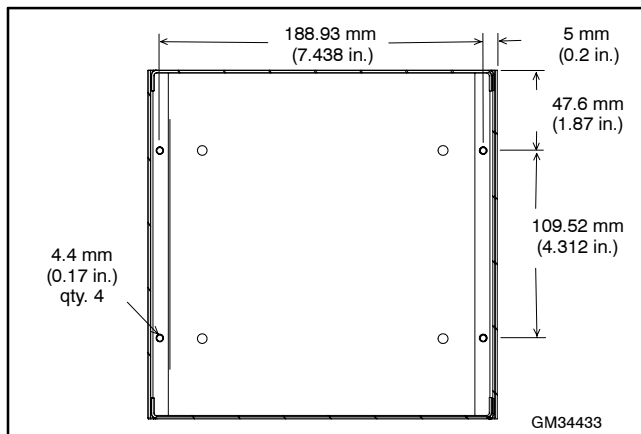

Figure 16 Drilling Mounting Holes in Hoffman Box for RSA Front Panel Assembly
- 3.5.2 Use wall mounting plate GM33031 as a template and drill four 4.4 mm (0.17 in.) diameter holes in the Hoffman box front edge for mounting the RSA front panel assembly if not already done. See Figure 16.